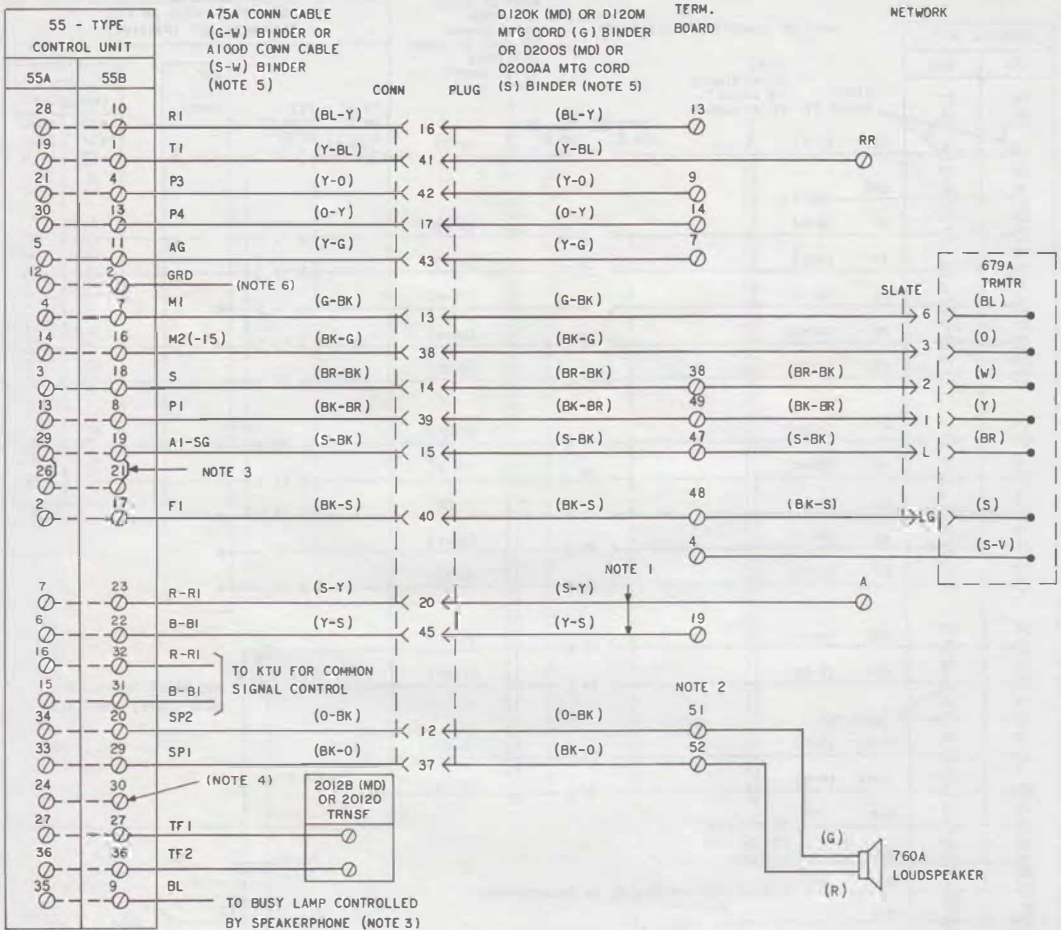

Fig. 4—630DA/DAM or 631DA/DAM Telephone Set, Connections
- (c) Install 679A (MD) transmitter in third or fifth module and connect slate plug to receptacle on rear of transmitter. Insulate and store balance of plugs.
- (d) Modify set per Fig. 4, 6 and Table D, F.